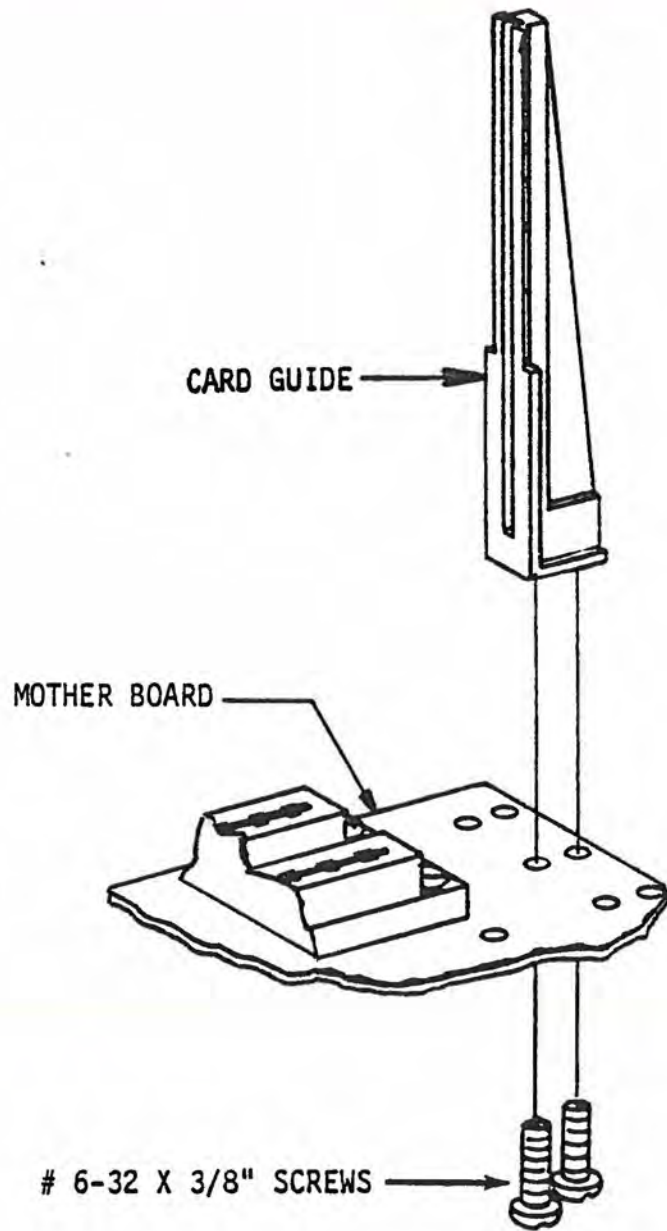

Figure 5-66 Card Guide Mounting
4. Mount the card guides on both sides of the connectors as illustrated in Figure 5-66.